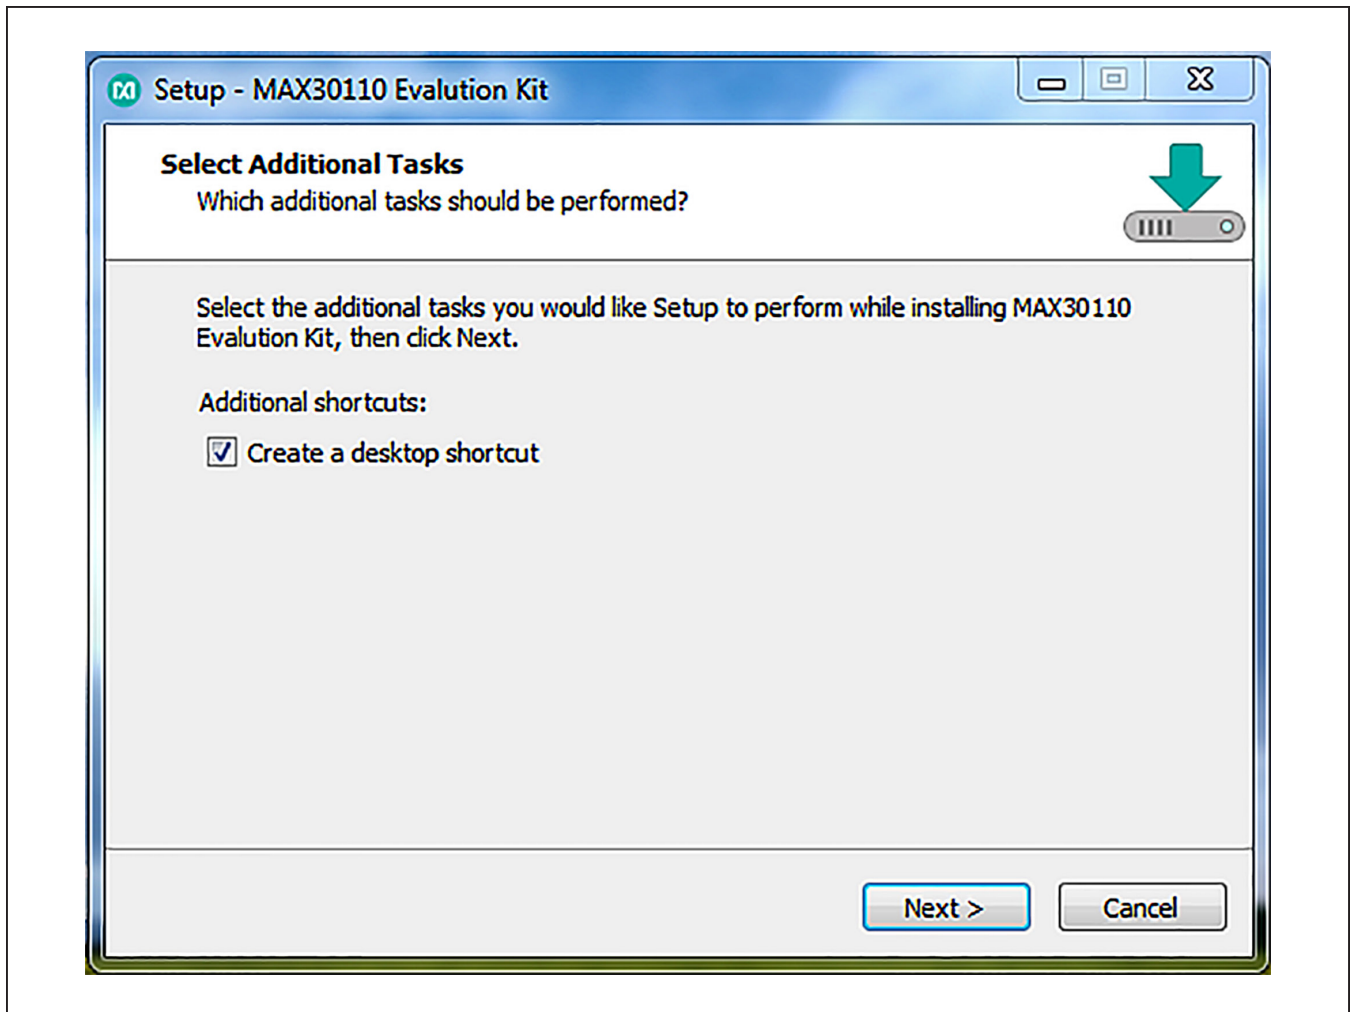
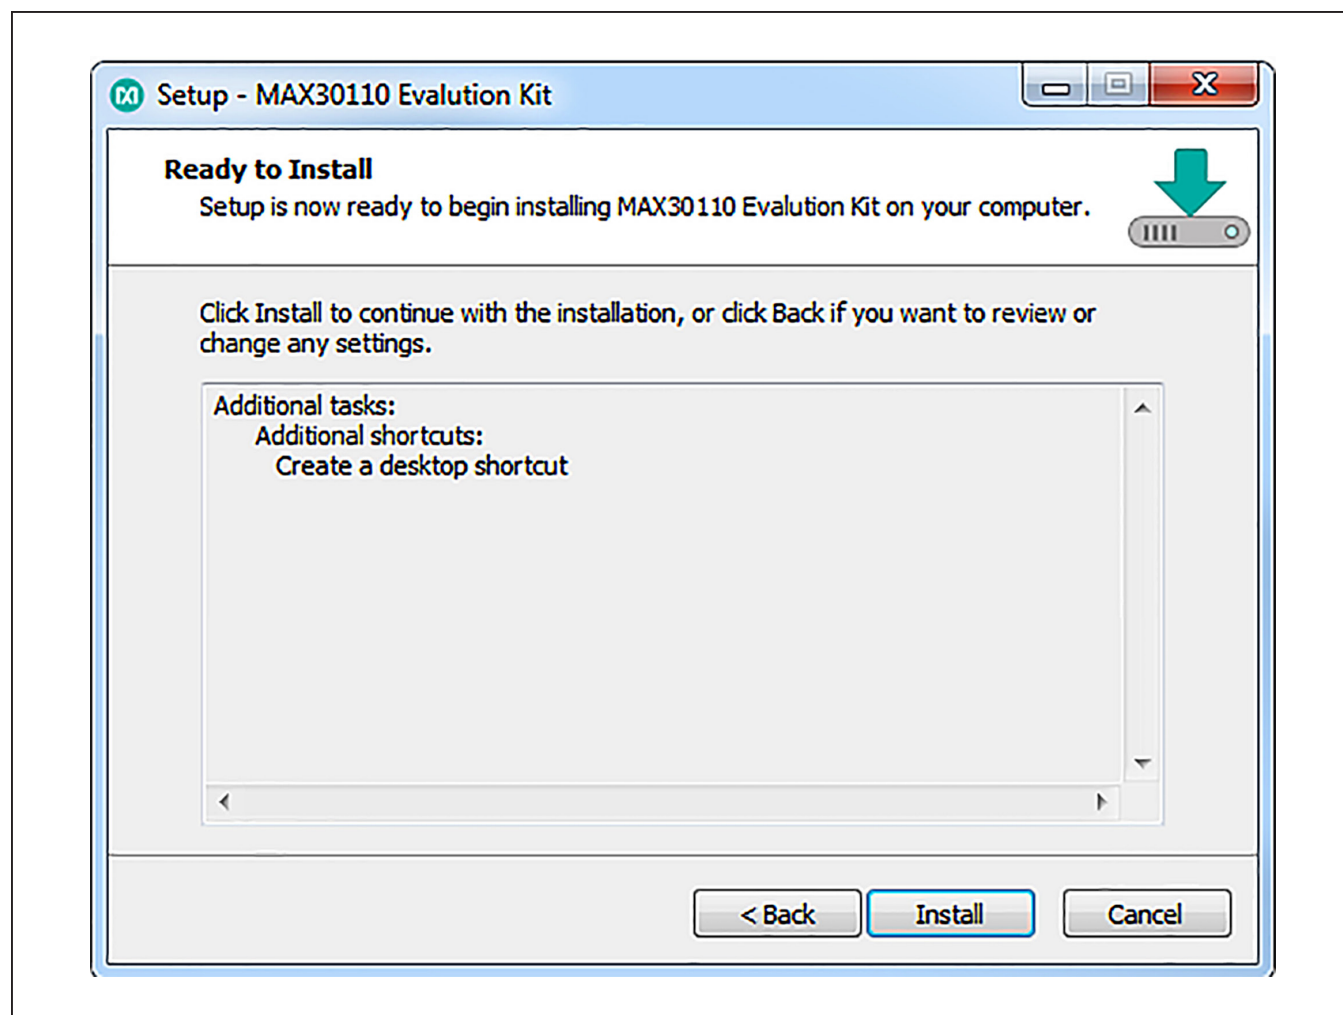
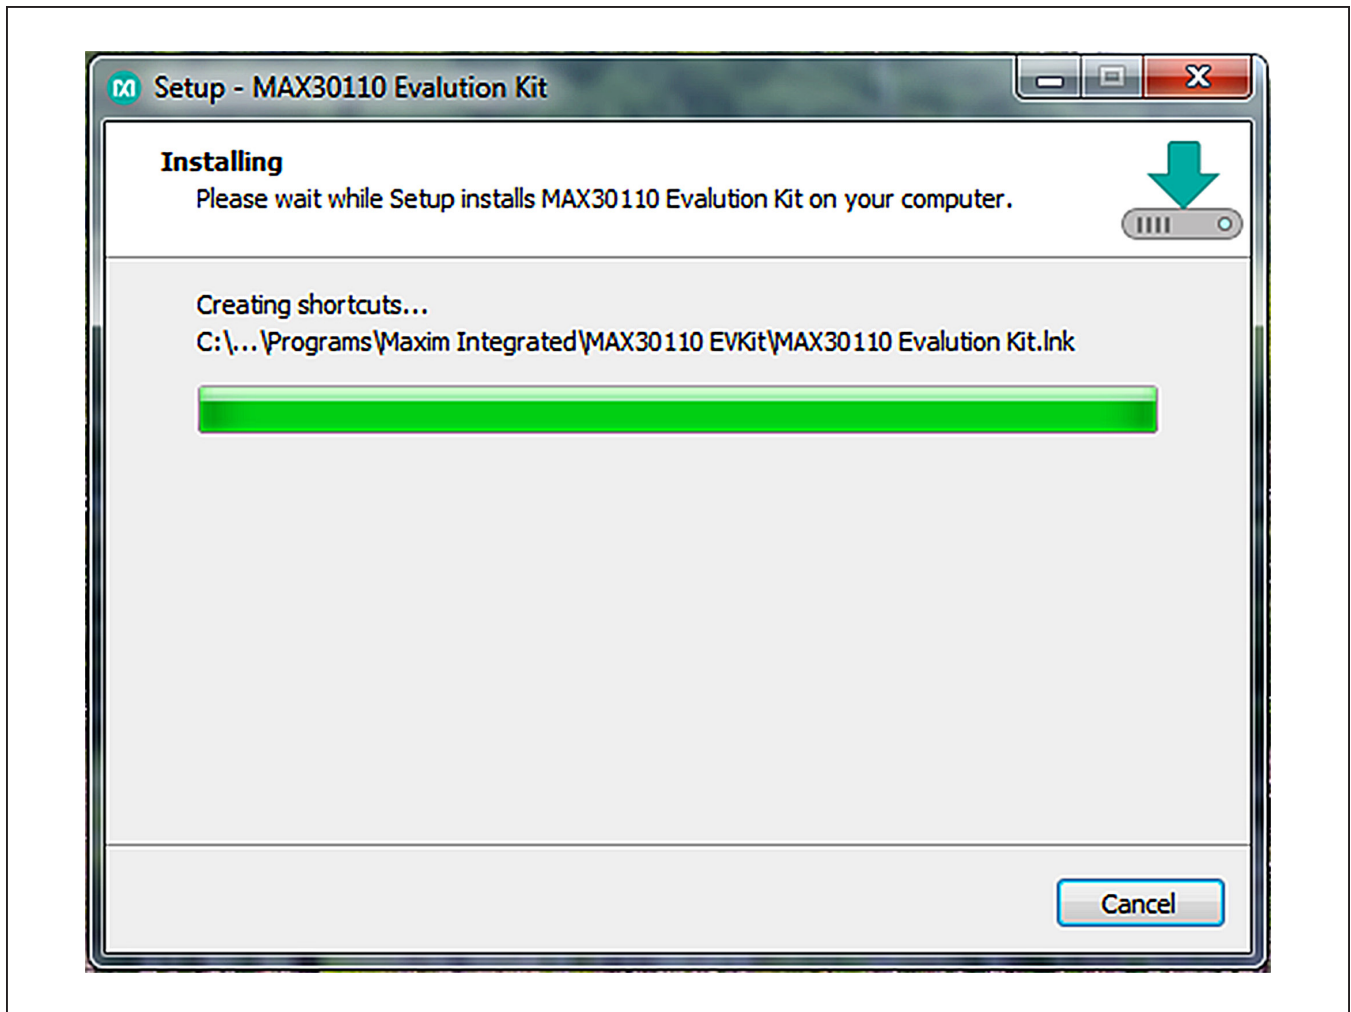
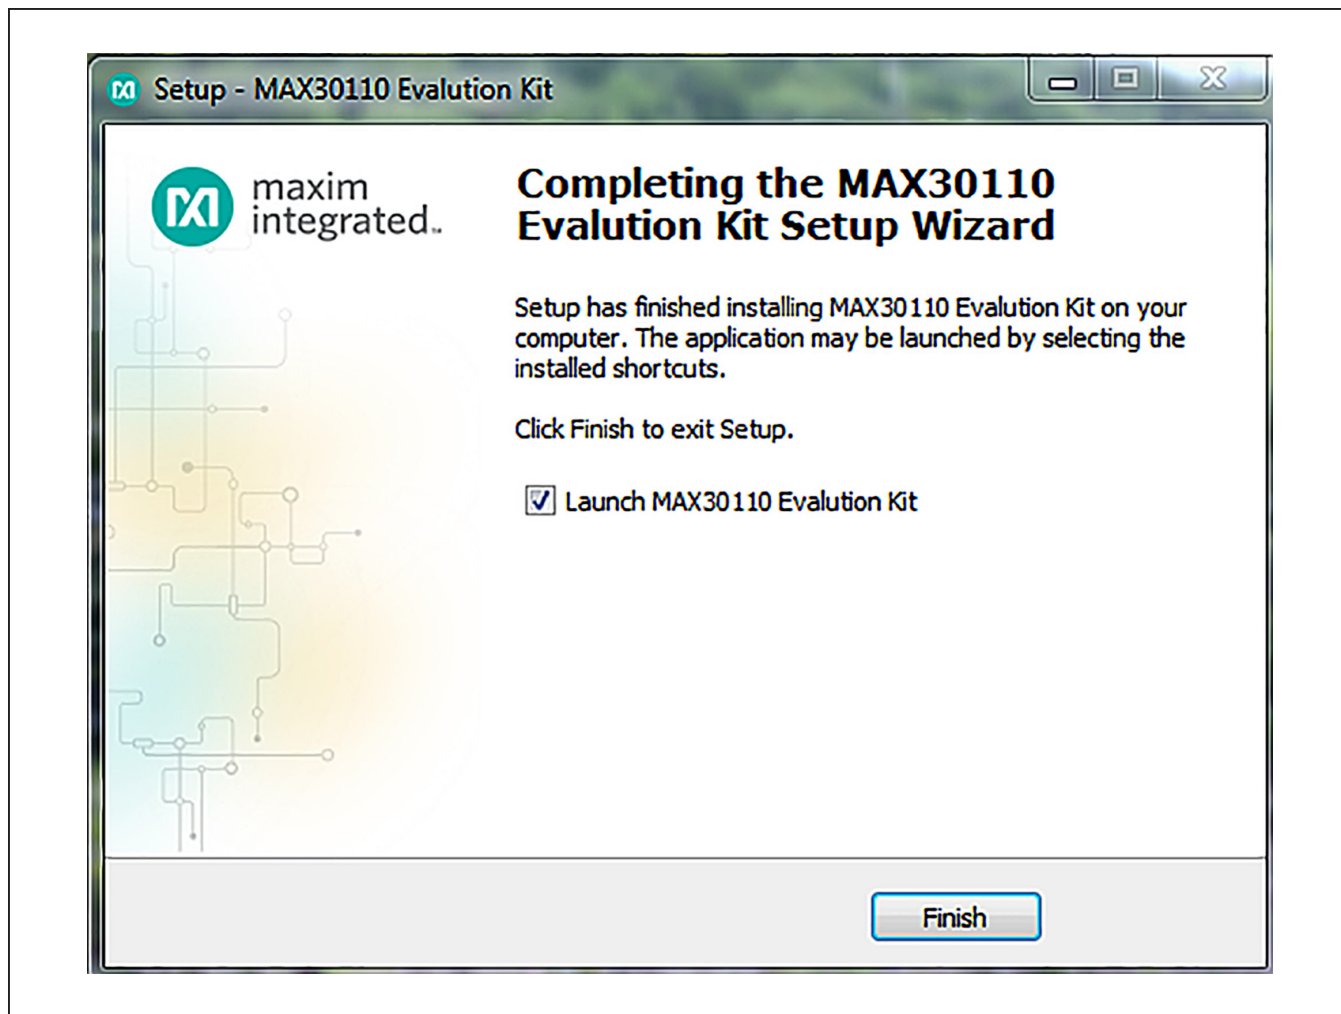

Figure 1. MAX30110 EV Kit—Setup GUI Software Step 1
Figure 2. MAX30110 EV Kit—Setup GUI Software Step 2
Figure 3. MAX30110 EV Kit—Setup GUI Software Step 3
Figure 4. MAX30110 EV Kit—Setup EVKIT GUI Software Step 4
- 2) Open up MAX30110GUISetupVxxx.exe and follow the instructions from the pop-up windows as shown in Figure 1, Figure 2, Figure 3, and Figure 4.